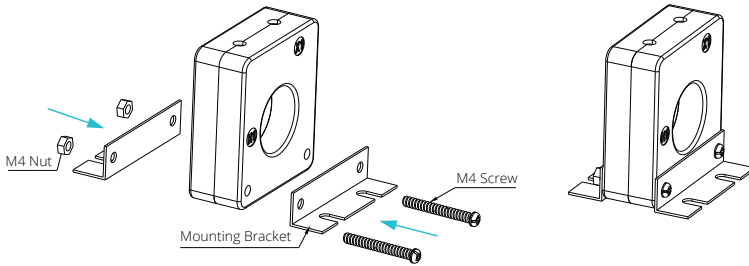

Figure 4 Mounting Brackets Installation for AcuCT-S113 Series
2. For AcuCT-S113 Series, install the left bracket on the left side and right bracket on the right side as depicted in Figure 4.